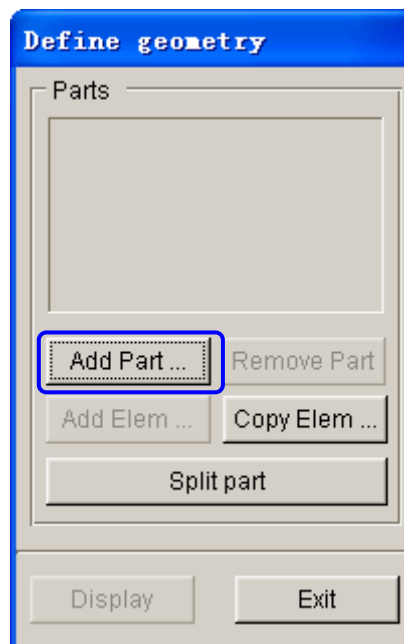

Figure 1.8 Define Geometry dialog box
- The DEFINE GEOMETRY dialog box illustrated in Figure 1.8 is displayed.